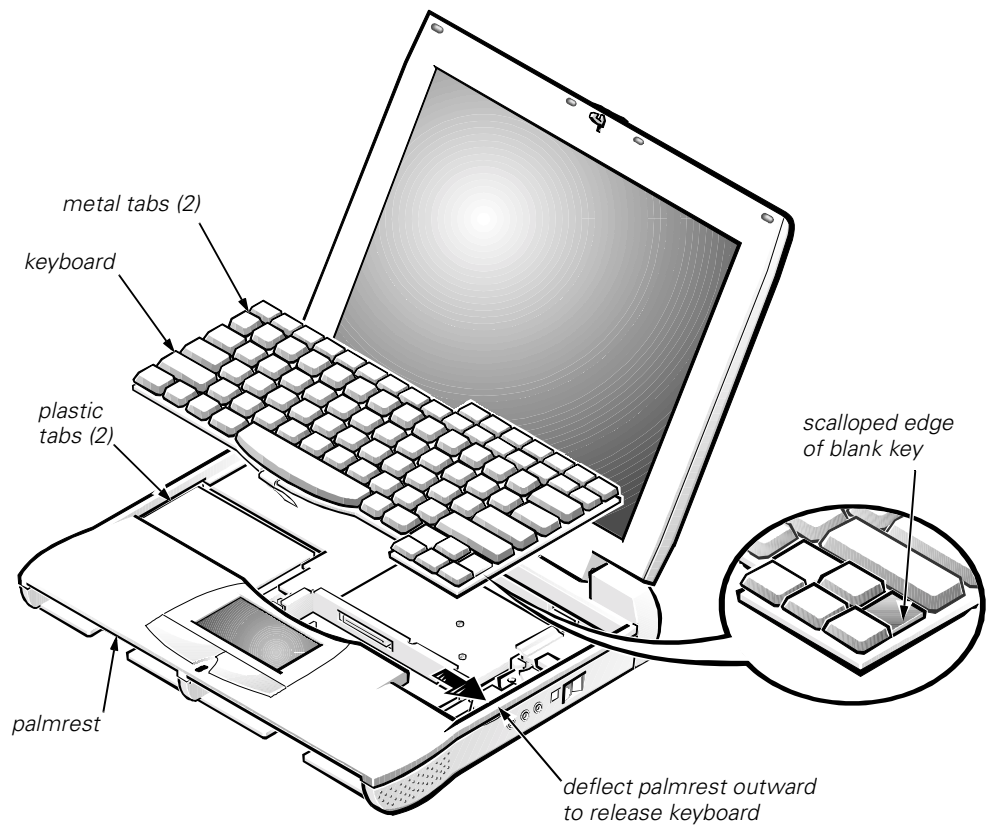

Figure 10. Keyboard Assembly Removal
- a. Carefully deflect the palmrest (next to the blank key below the <Shift> key; see Figure 10) away from the center of the keyboard, until the tab on the palmrest's inner edge disengages from the keyboard. The keyboard should raise up slightly.
- b. Insert a fingernail or a small flat-bladed screwdriver under the scalloped edge of the blank key (see Figure 10), and lift the right edge of the keyboard.